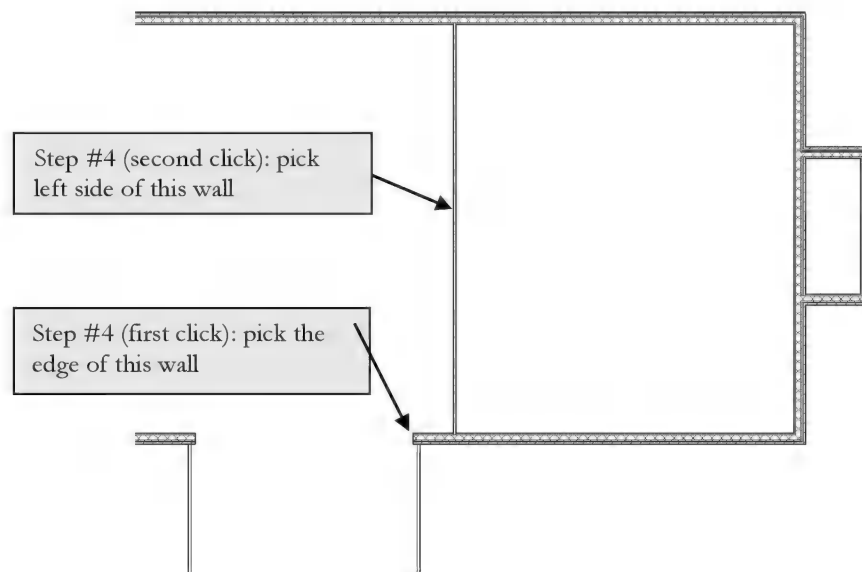

FIGURE 3-3.1 First interior wall
3. Draw a “vertical” wall approximately as shown in Figure 3-3.1. You will adjust its exact position in step #4.
4. Select **Modify** → **Modify** → **Align** tool to align it with the edge of the exterior wall in the atrium (Figure 3-3.1). When you are done, the wall should look like Figure 3-3.2.